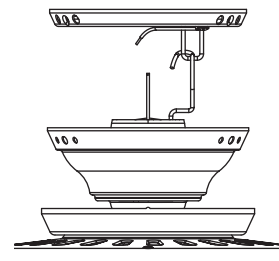

Figure 16 - Rotating the fan
1. Rotate the fan 180° clockwise from the initial position when hanging the fan. The arrows on the hanger ball and on the ceiling plate should be pointing in the same direction and should be pointing towards the tab hole on the canopy. Refer to Figure 16.